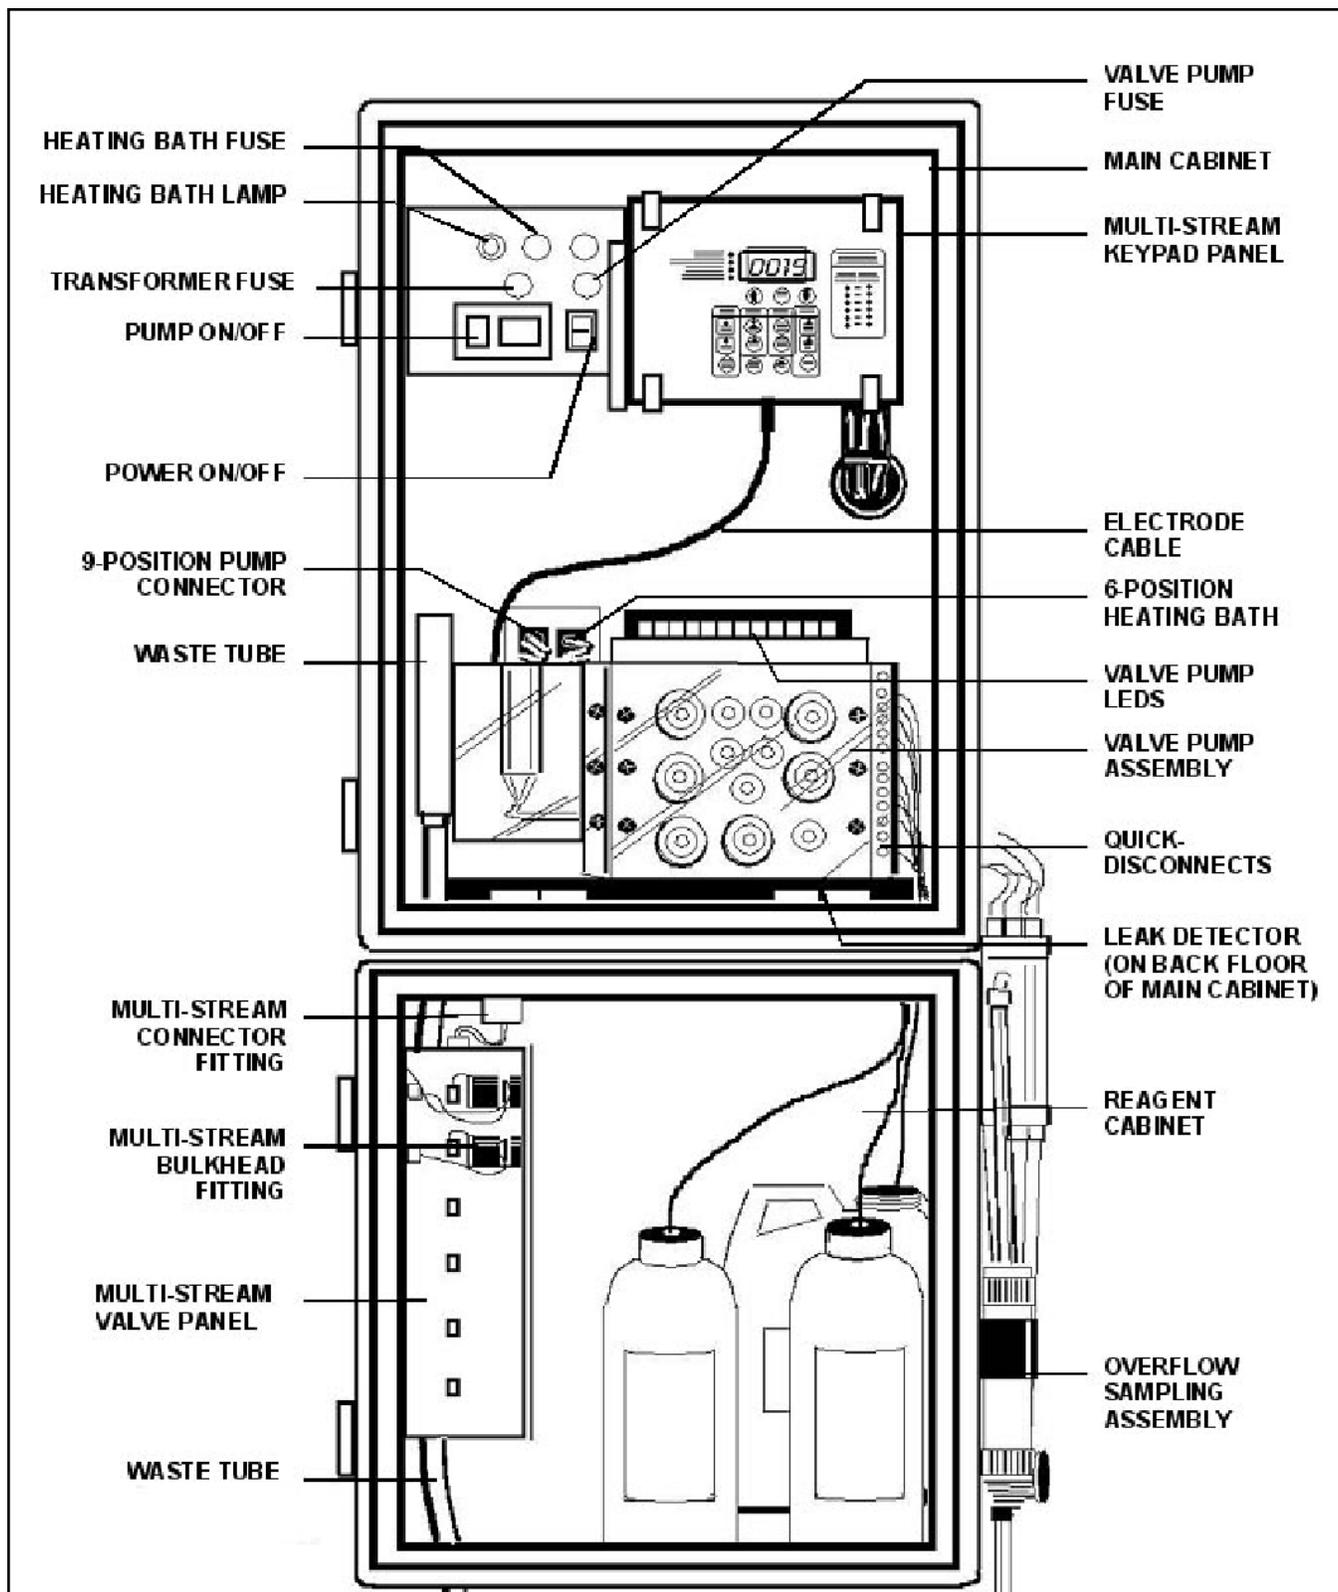

Figure 7-1. Analyzer Front View
7.1 Analyzer Front View (Refer to Fig. 7-1).